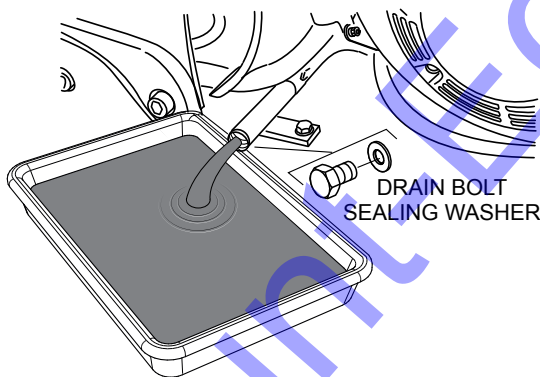

Figure 29. Draining Engine Oil
1. Remove the oil drain bolt (Figure 29). and sealing washer and allow the oil to drain into a suitable container.